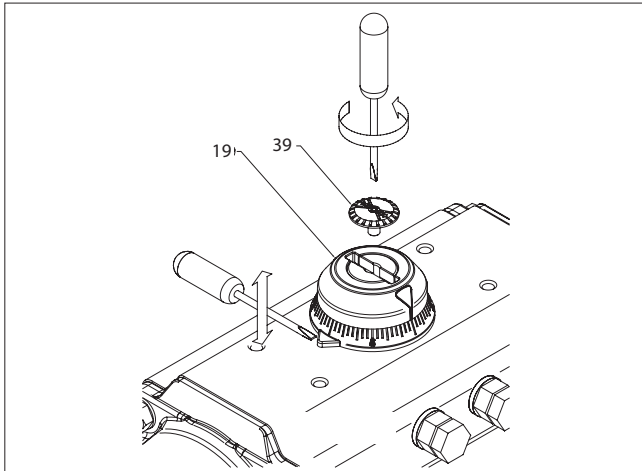

Figure 3.
**1. Removal of Position Indicator (19,20), (Figure 3):**